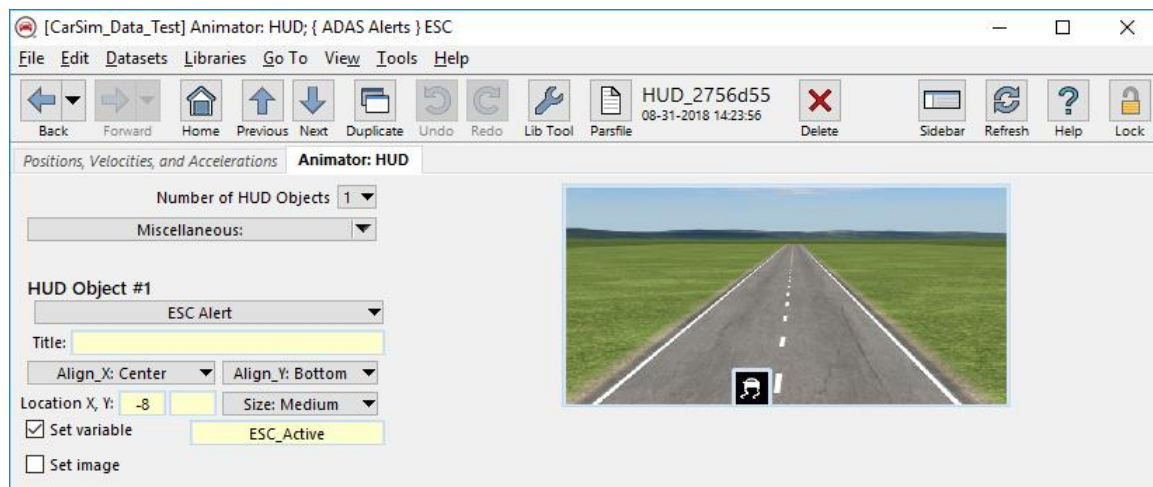

Figure 3. Animator HUD dataset to show ESC icon when active.
- ⑪ Miscellaneous yellow field, used for writing VS Commands to extend the controller.
- ⑫ Miscellaneous link, used in the example for an animator dataset to show an ESC alert when the ESC is in “Active” mode. In this example, the ESC Alert is made visible by the output variable `ESC_Active` (Figure 3).
- ⑬ Links to **Plot Setup** datasets for ESC-related plots.